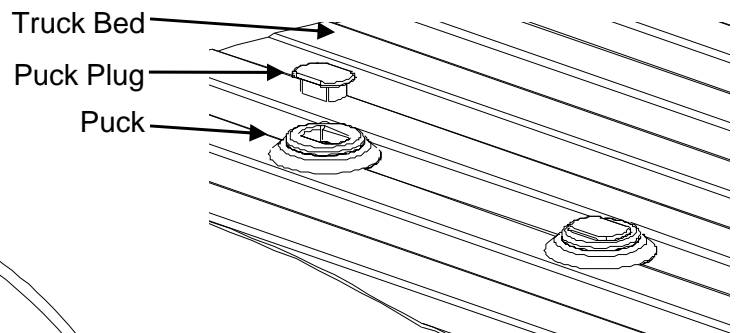

Figure 15: Puck Plugs
1. Remove puck plugs from all (4) of the pucks in the truck bed (Figure 15) and store for use when hitch is removed.
6. Press puck plugs (packed with mounting kit) into all (4) of the pucks in the truck bed to keep debris out of pucks (Figure 15).